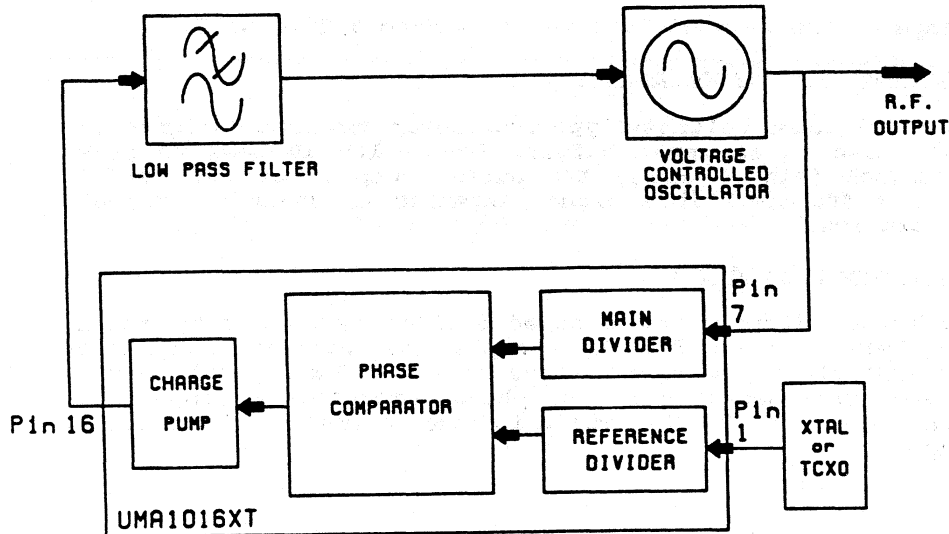

Figure 1
- Figure 1 - P.L.L. circuit block diagram**
The main blocks are illustrated in the Phase Locked Loop diagram given in figure 1.